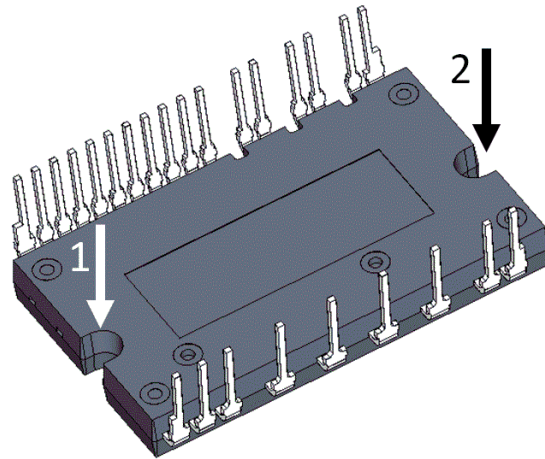

Figure 10. Mounting Screws Torque Order
- 9. Avoid one side tightening stress. Figure 10 shows the recommended torque order for mounting screws. Uneven mounting can cause the ceramic substrate of the SPM 45 package to be damaged. The pre-screwing torque is set to 20 ~ 30% of maximum torque rating.